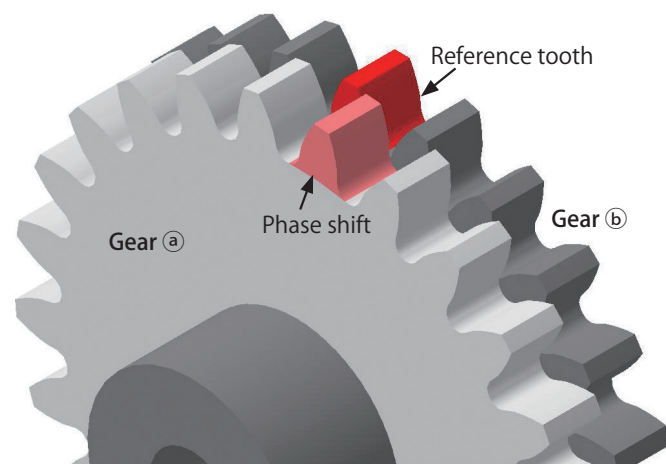

Fig. 1 Initial state
When the spring installed in the anti-backlash spur gear is in a free state, the teeth of gear ① and gear ② are out of phase. (Fig. 1)